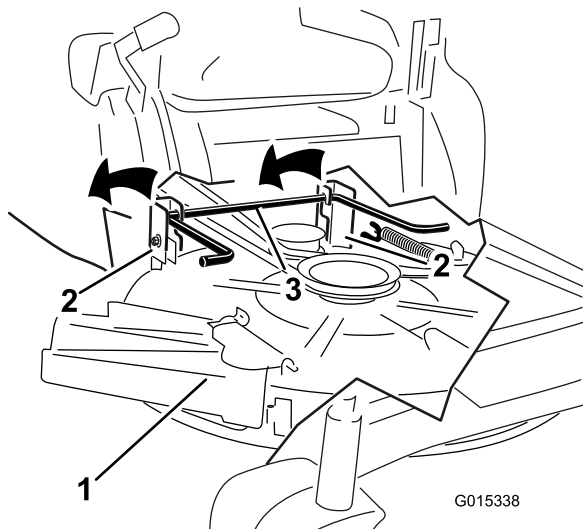

Figure 53
5. Lift the mower deck and hanger brackets clear of the rear lift rod, and lower the mower carefully to the ground (Figure 53).
5. Lift the rear of the mower deck and guide the hanger brackets over the rear lift rod (Figure 53).